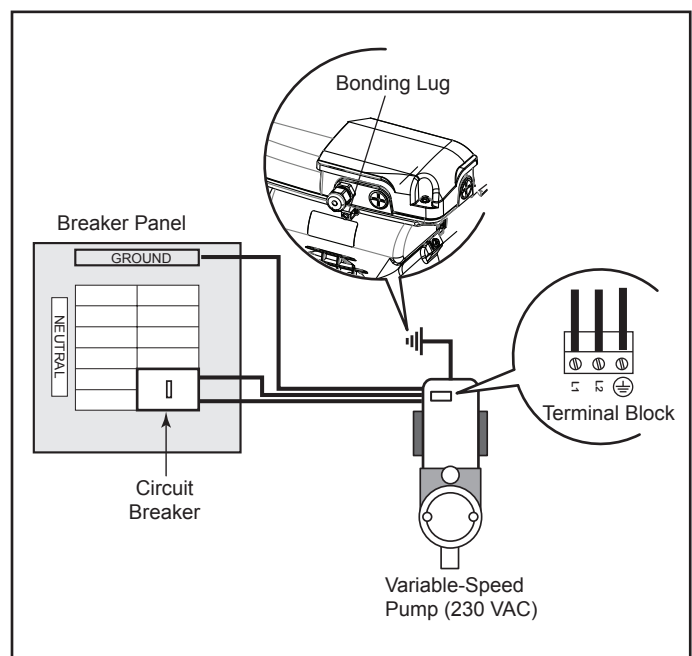

Figure 8. Bonding the Motor
1. The motor frame must be bonded to a reliable grounding point using a solid copper conductor, No. 8 AWG or larger. The motor frame must be bonded to all metal parts of the swimming pool, spa, or hot tub structure and to all electrical equipment, metal conduit, and metal piping within five (5) feet (15 cm) of the inside walls of the swimming pool, spa, or hot tub.
**NOTE** In Canada, the pump must be located a minimum of three (3) meters (approximately 10 feet) from the water (CSA C22.1).
2. Bond the motor using the provided external lug. See Figure 8.